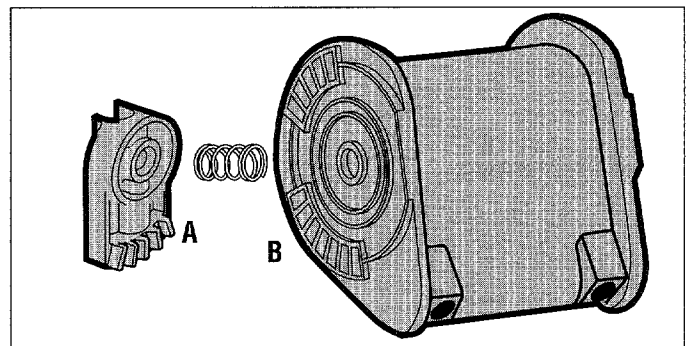

Figure 2: Move upper handlebar up or down to mate ratchet teeth (A) with corresponding slots (B). Three height positions are available. Retighten knob.
- There are three handlebar height settings. Select one by aligning the five teeth on the handlebar ratchet with five of the seven handlebar pivot slots— refer to Figure 2. Carefully move the upper handlebar so all five teeth are